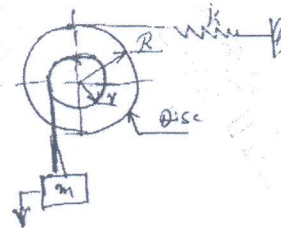

Fig. Q8(b)
b. Obtain the natural frequency of the system shown in Fig Q8 (b). (08 Marks)